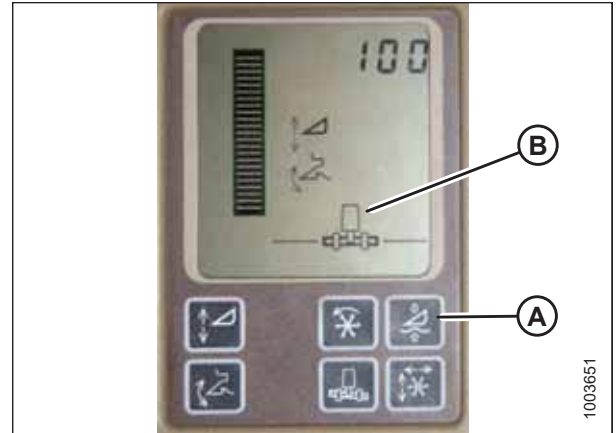

Figure 6.256: John Deere Combine Display
Do **NOT** use the active header float function (A) in combination with the MacDon auto header height control (AHHC)—the two systems will counteract one another. The header symbol (B) on the display should **NOT** have a wavy line under it and should appear exactly as shown on the Active Header Control Display in Figure 6.256, page 285.